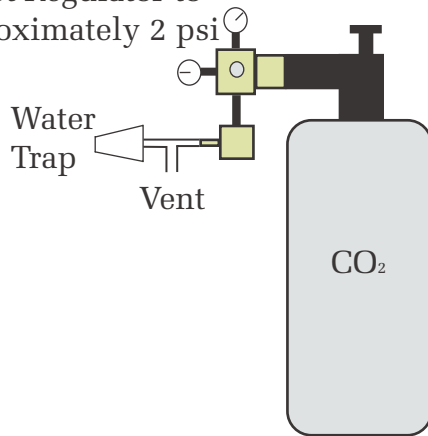

Figure 2-5. Example of CO₂ calibration setup.
10. Attach the certified source of CO₂ gas to the CO₂ side-stream sampling tube as per Figure 2-5 below.